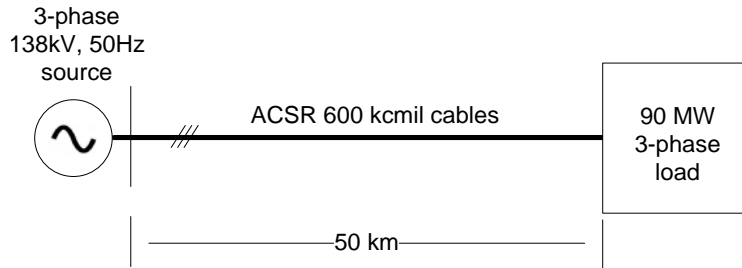

Figure 5.2
- (b) A 3-phase 138 kV source supplies power to a 90 MW 3-phase load through a 50 km transmission line as shown in Figure 5.2. The transmission line was constructed using three ACSR conductors with size 600 kcmil. The voltage at both the source end and the load end is 138 kV (line-to-line).